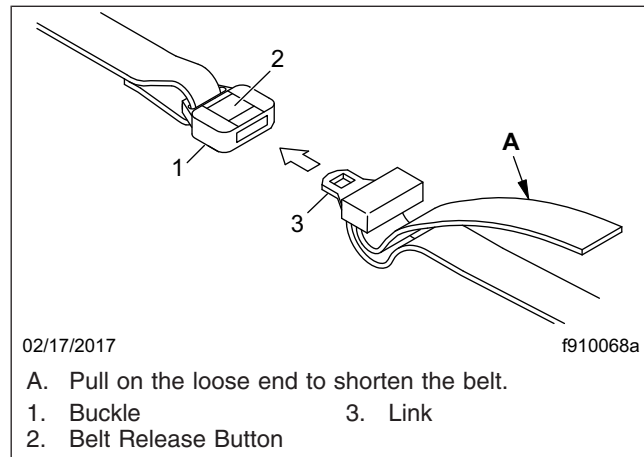

Fig. 7.12, Bunk Restraint Adjustment
3. After the belt is connected, shorten it by pulling on the loose end until the belt is snug, but comfortable. Be sure the belts are not twisted. See **Fig. 7.12**.